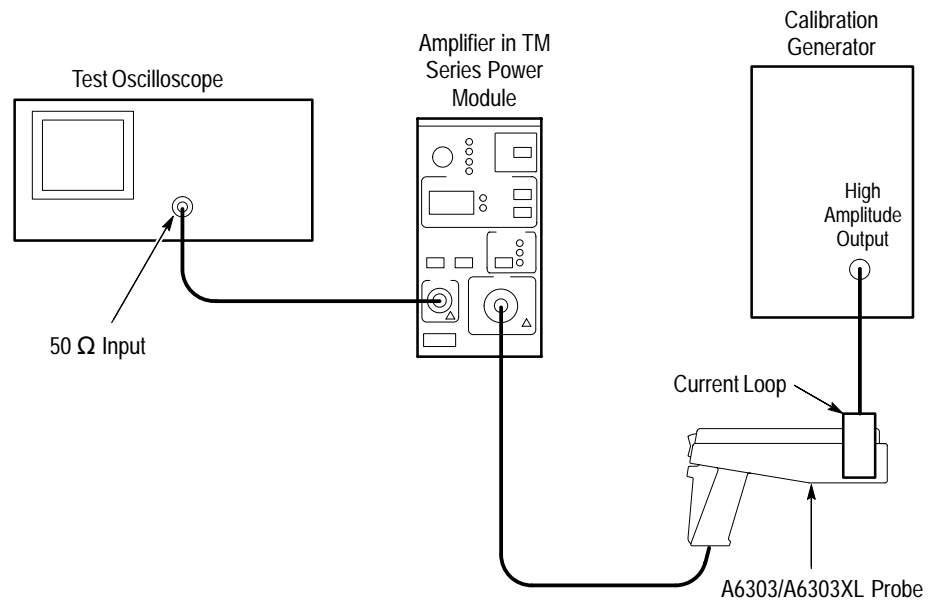

Figure 22: A6303 and A6303XL Adjustment Setup
6. Disconnect the BNC cable from the calibration generator and attach it to the Amplifier **OUTPUT** connector (see Figure 22 on page 73).